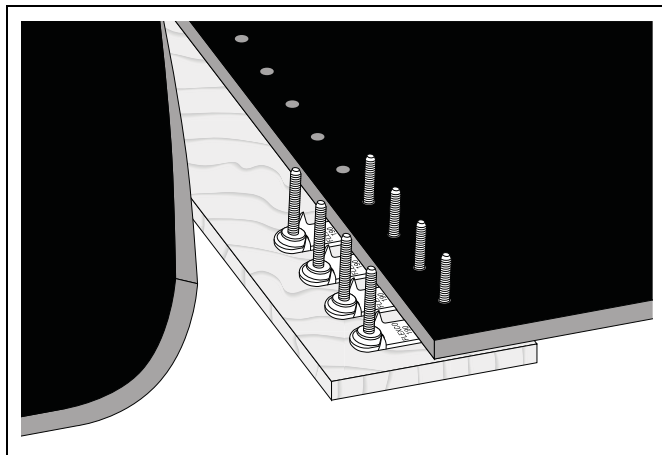

Figure 6J
4. Fold one belt end back and insert bolts in one row of holes. *(See Figure 6J.)*